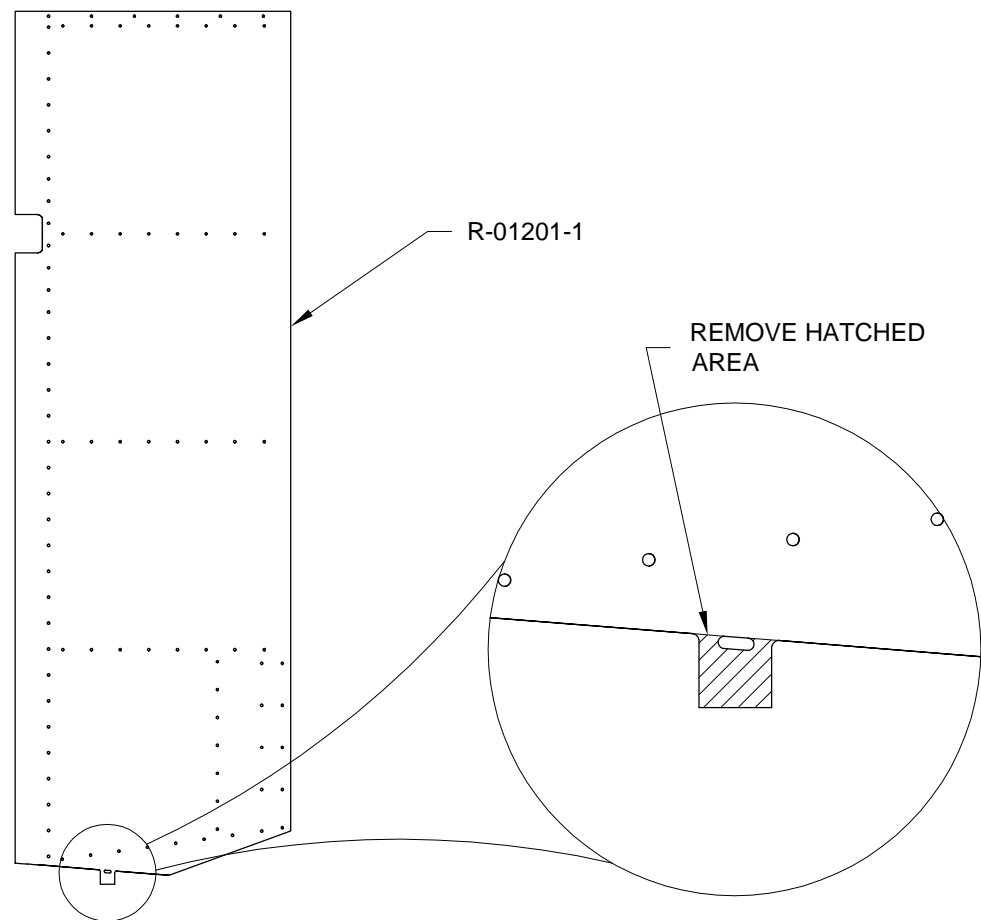

FIGURE 1: TAB REMOVAL
Step 1: Remove the tab, shown hatched, from the lower end of the R-01201-1 Main Skin as shown in Figure 1.